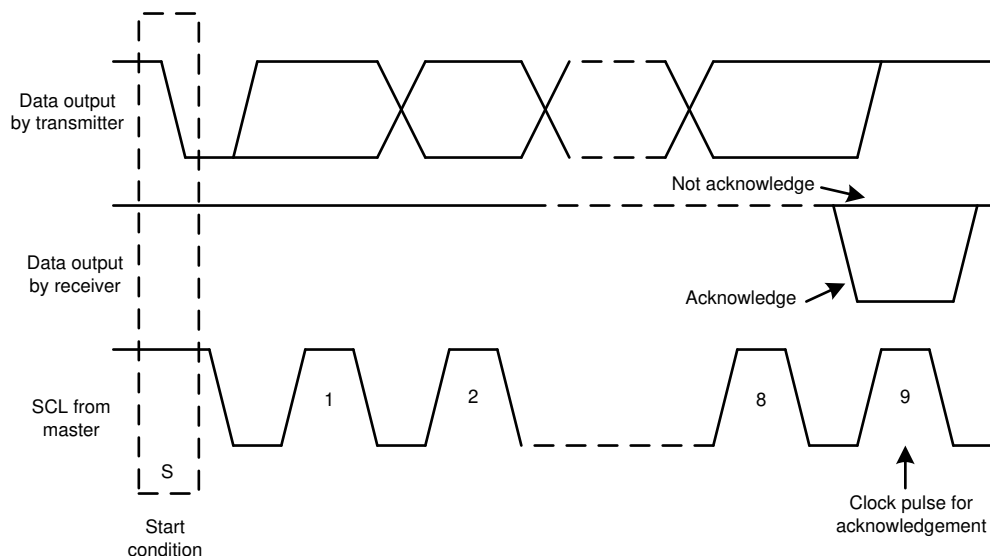
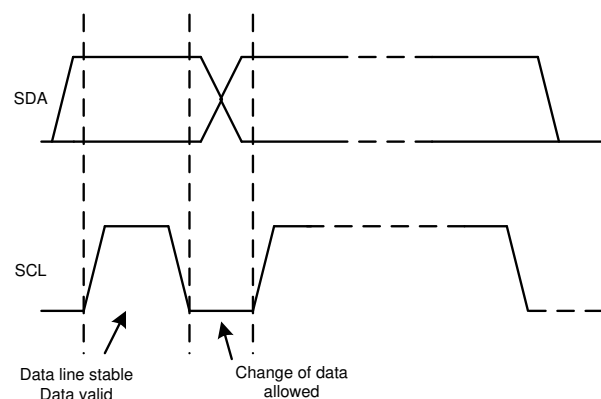

Figure 7-2. Acknowledge and Not Acknowledge on the I²C Bus
Figure 7-4. Bit Transfer on the I²C Bus
Other than specific timing signals, the I²C interface works with serial bytes. At the end of each byte, a ninth clock cycle generates and detects an acknowledge signal. Acknowledge is when the SDA line is pulled low during the high period of the ninth clock cycle. A not-acknowledge is when the SDA line is left high during the high period of the ninth clock cycle as shown in Figure 7-2.
2. The master then generates the SCL pulses, and transmits the 7-bit address and the read/write direction bit ($R/\overline{W}$) on the SDA line. During all transmissions, the master makes sure that data are valid. A valid data condition requires the SDA line to be stable during the entire high period of the clock pulse, as shown in Figure 7-4. All devices recognize the address sent by the master and compare the address to the respective internal fixed address. Only the slave device with a matching address generates an acknowledge by pulling the SDA line low during the entire high period of the ninth SCL cycle, as shown in Figure 7-2. When the master detects this acknowledge, the communication link with a slave has been established.
4. To signal the end of the data transfer, the master generates a stop condition by pulling the SDA line from low-to-high while the SCL line is high (see Figure 7-4). This action releases the bus and stops the communication link with the addressed slave. All I²C-compatible devices recognize the stop condition. Upon receipt of a stop condition, the bus is released, and all slave devices then wait for a start condition followed by a matching address.